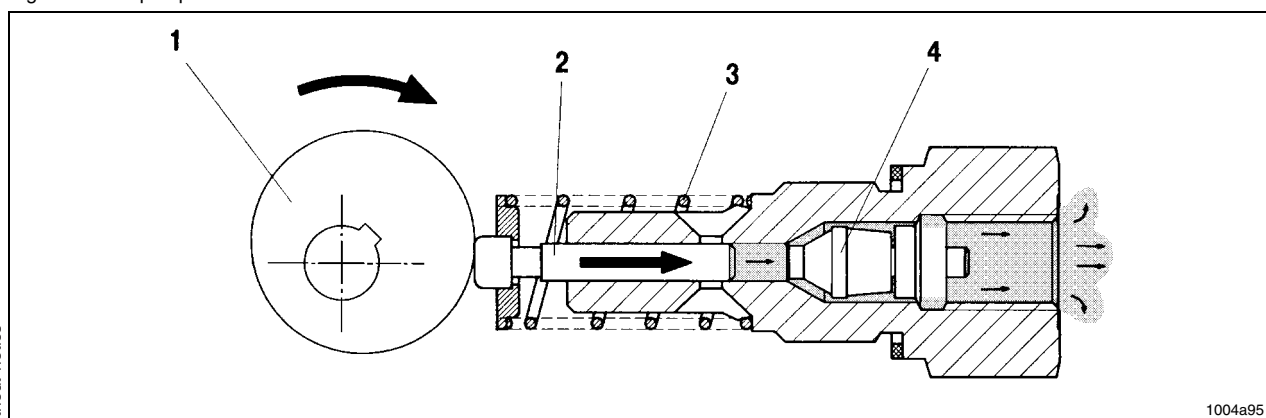

Fig. 8 The pump element dispenses lubricant
- If several pump elements are to be installed, the installation arrangement shown in Fig. 8 must be adhered to.